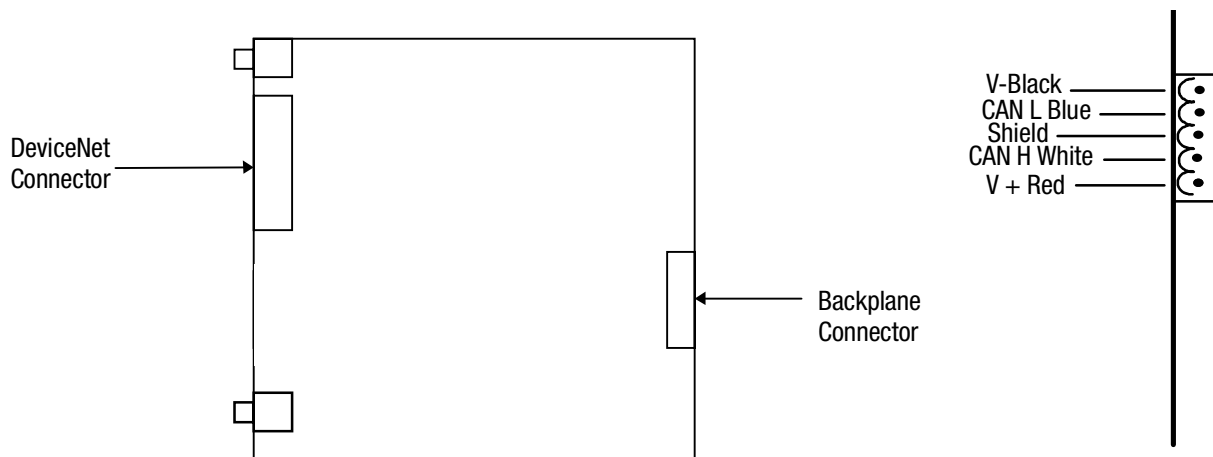
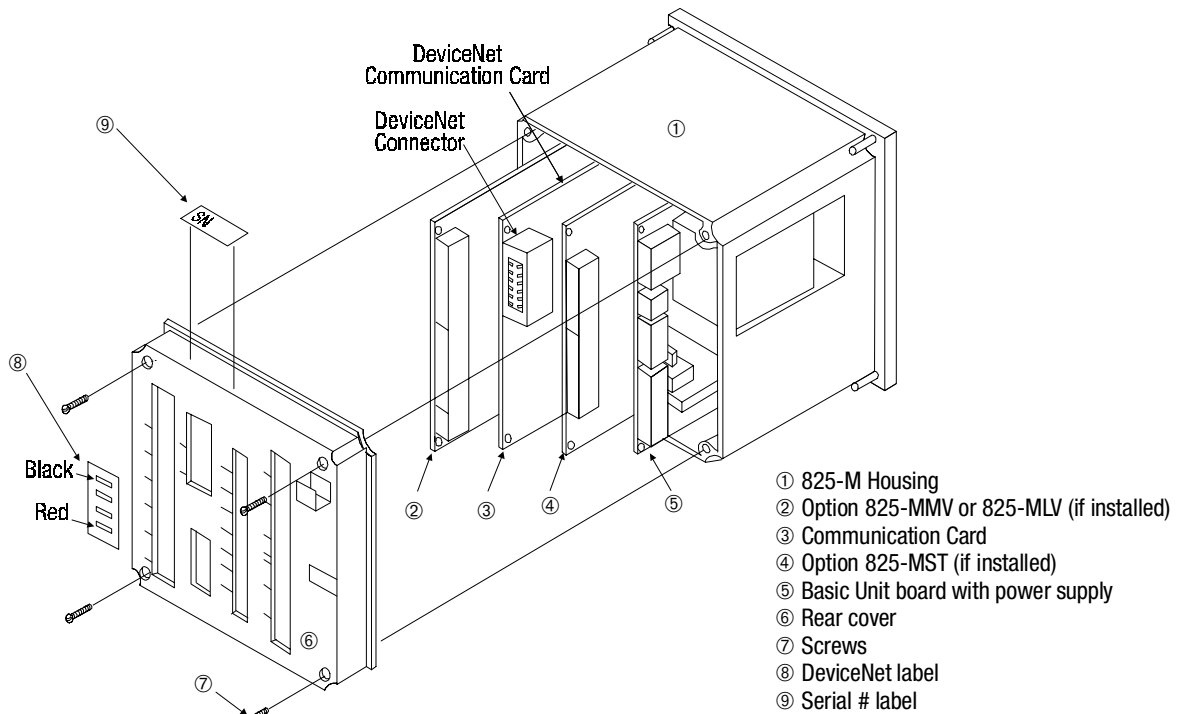

Figure 1.1 Card Front and Edge Views
Figure 2.1 Removing and Installing the Communication Card
Before installing the Communication Card, the SMM's rear cover must be removed. This is done by removing the 4 screws on the corners of the rear cover as shown in Figure 2.1.
1. Remove the previously installed Communication Card ③ (if necessary) by carefully pulling it out from the unit along the guiding slots of the SMM housing.
2. Align the new Communication Card in the second set of guiding slots from the left with the component side facing the basic unit with power supply ⑤. Carefully and slowly slide the Communication Card into the SMM housing, making sure that backplane connector shown in Figure 2.1 mates with the backplane receptacle pins on the motherboard. Care should be taken not to damage the pins or backplane connector while making sure that the Communication Card seats against the motherboard.
5. Attach the supplied DeviceNet label ⑧ and serial # label ⑨ as shown in Figure 2.1.
The Communication Card receives power and communicates through the DeviceNet Connector (See Figure 1.1 and Figure 2.1 for the location of this connector). DeviceNet cable wires connect to the plug in the connector terminal block as shown in the following table.